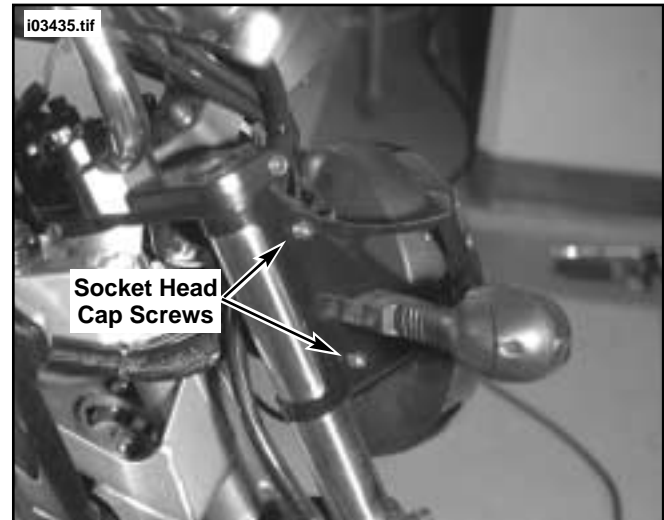

Figure 3. Remove and Discard Socket Head Screws
3. See Figure 3. On right side of vehicle, remove the two socket head cap screws securing the headlamp mounting bracket to the fork tube. Discard screws.